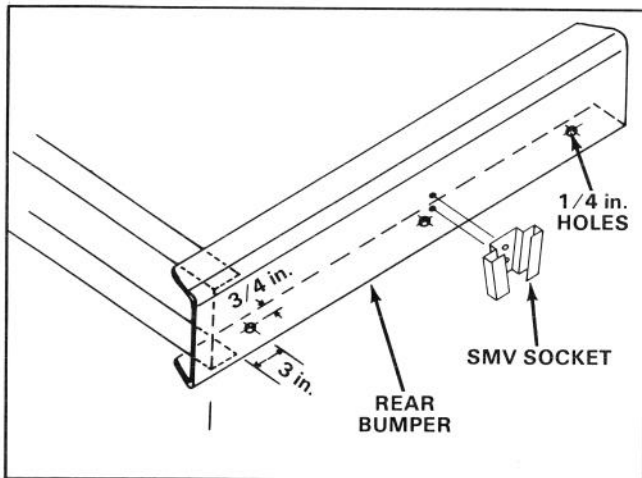

Figure 10
1. On the lower flange of the rear bumper, measure approximately 1 in. away from the side frame and 3/4 in rearward on the bumper flange on each side and center punch each location (Fig. 10).
2. Measure 3/4 in. inward on the bumper flange in approximate center of the bumper and center punch the location (Fig. 10).
3. Drill 1/4 in. holes in all three locations (Fig. 10).
1. Locate the center of the back of the rear bumper. Place the SMV socket over the location and center punch and drill the two SMV mounting holes with a 5/16 in. drill (Fig. 10).
2. Secure SMV socket to the bumper with two (2) 5/16 x 1 in. carriage bolts and 5/16 flange lock nuts (Fig. 10).